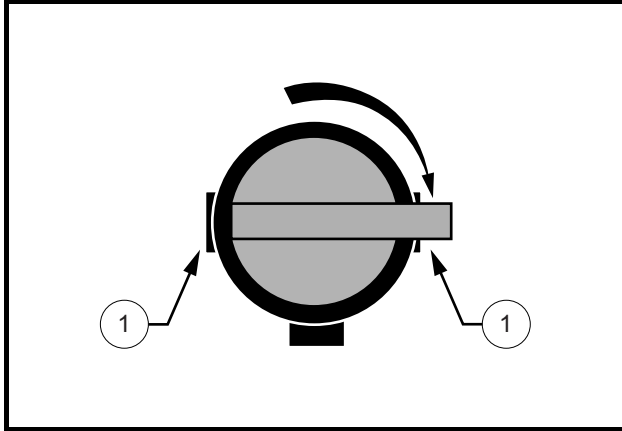

Figure 16 Fuel Shut-off Valve – Closed (OFF) Position
- Gasoline vehicles only: Turn the fuel shut-off valve to the closed (OFF) position (Figure 16, Page 30).
- Turn the fuel shut-off valve to the closed (OFF) position (Figure 16).
- 2.1. Place the Forward/Reverse handle in the NEUTRAL position. Turn the fuel shut-off valve to the closed (OFF) position (**Figure 16, Page 30**) and run the engine until fuel remaining in the carburetor and fuel lines is depleted and the engine stalls.
- Turn the fuel shut-off valve to the closed (OFF) position (Figure 16, Page 30).